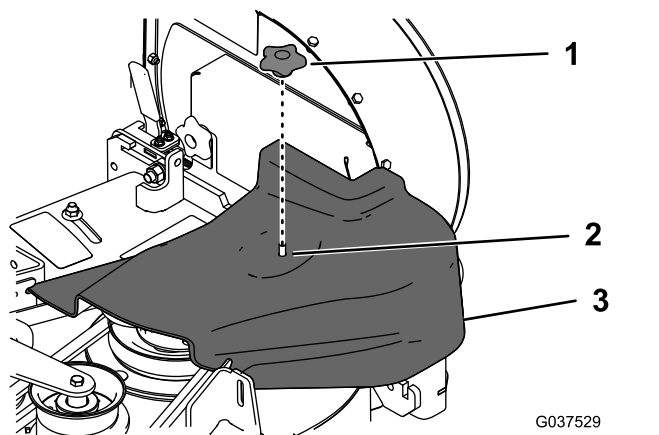

Figure 7
- Install the belt cover and secure it by screwing the knob onto the screw on the idler (Figure 7).